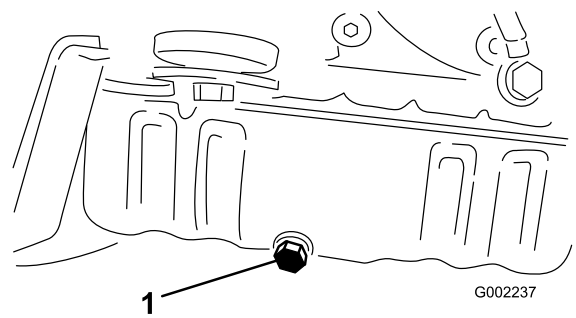

Figure 42
5. Remove the drain plug (Figure 42).